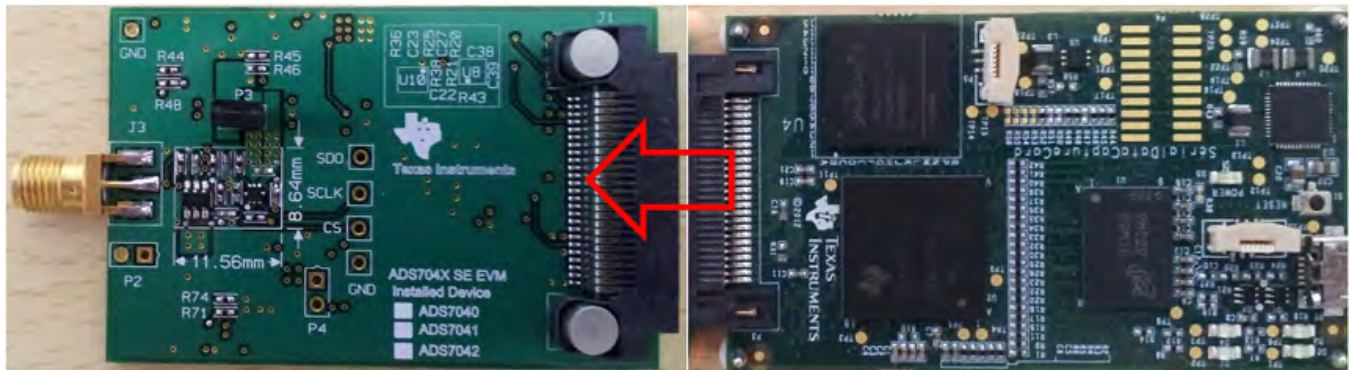

Figure 5. Connecting ADS7041EVM Board to Simple Capture Card
- Step 4. Connect the ADS7041EVM board to the Simple Capture Card as Figure 5 illustrates.